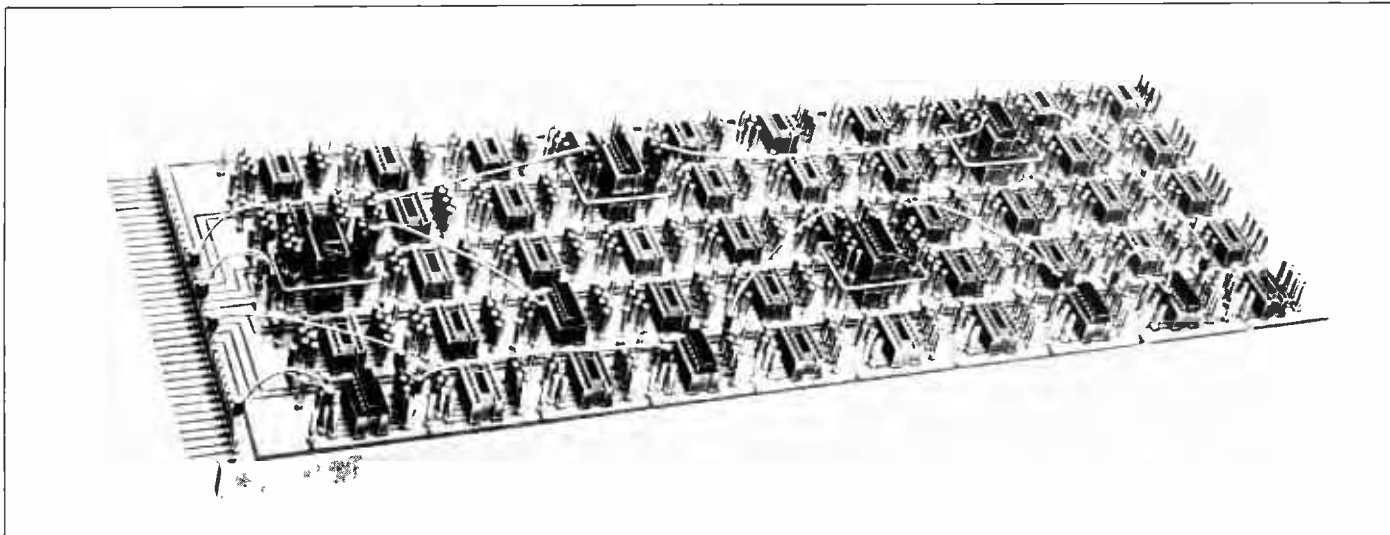

Fig 12
**Augat i.c. test panels** are available in three sizes, each 155mm wide by 106, 231, or 441mm long. These panels accommodate 10, 25 and 50 i.c. sockets respectively. Each i.c. pin has a vertical socket constructed from beryllium copper with gold-over-nickel plating, see Fig. 12, and connections are made by special patch leads. A 36-way edge connector, also with vertical sockets, is used for input/output connections and several power supply busses which travel in between the i.c. sockets.